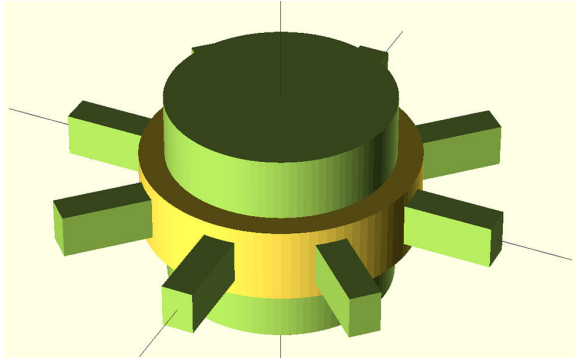

Figure C-7. Ring with cutouts
- ❶ You want to cut the square shapes out of the ring band, so you need to use **difference** to subtract the squares from the main band. Now this code becomes a double subtraction problem. If you turn on the thrown together view, you can see all of the geometries before you perform the subtraction or difference operation Figure C-7.
- ❷ This rotates your object around the origin of the coordinate system and, like the cube, takes a three-value array. The values are the x, y, z axes and are specified in that order. It is possible to rotate a shape in more than one axis at a time. In this example each of the cubes are being rotated around the z axis by increments of 45 degrees.
- ❸ This line shows the creation and rotation of the square shape, which is actually a rectangular box. It helps to read this line from right to left. First you create the rectangle shape using the cube geometries, then you perform rotation operations on it.